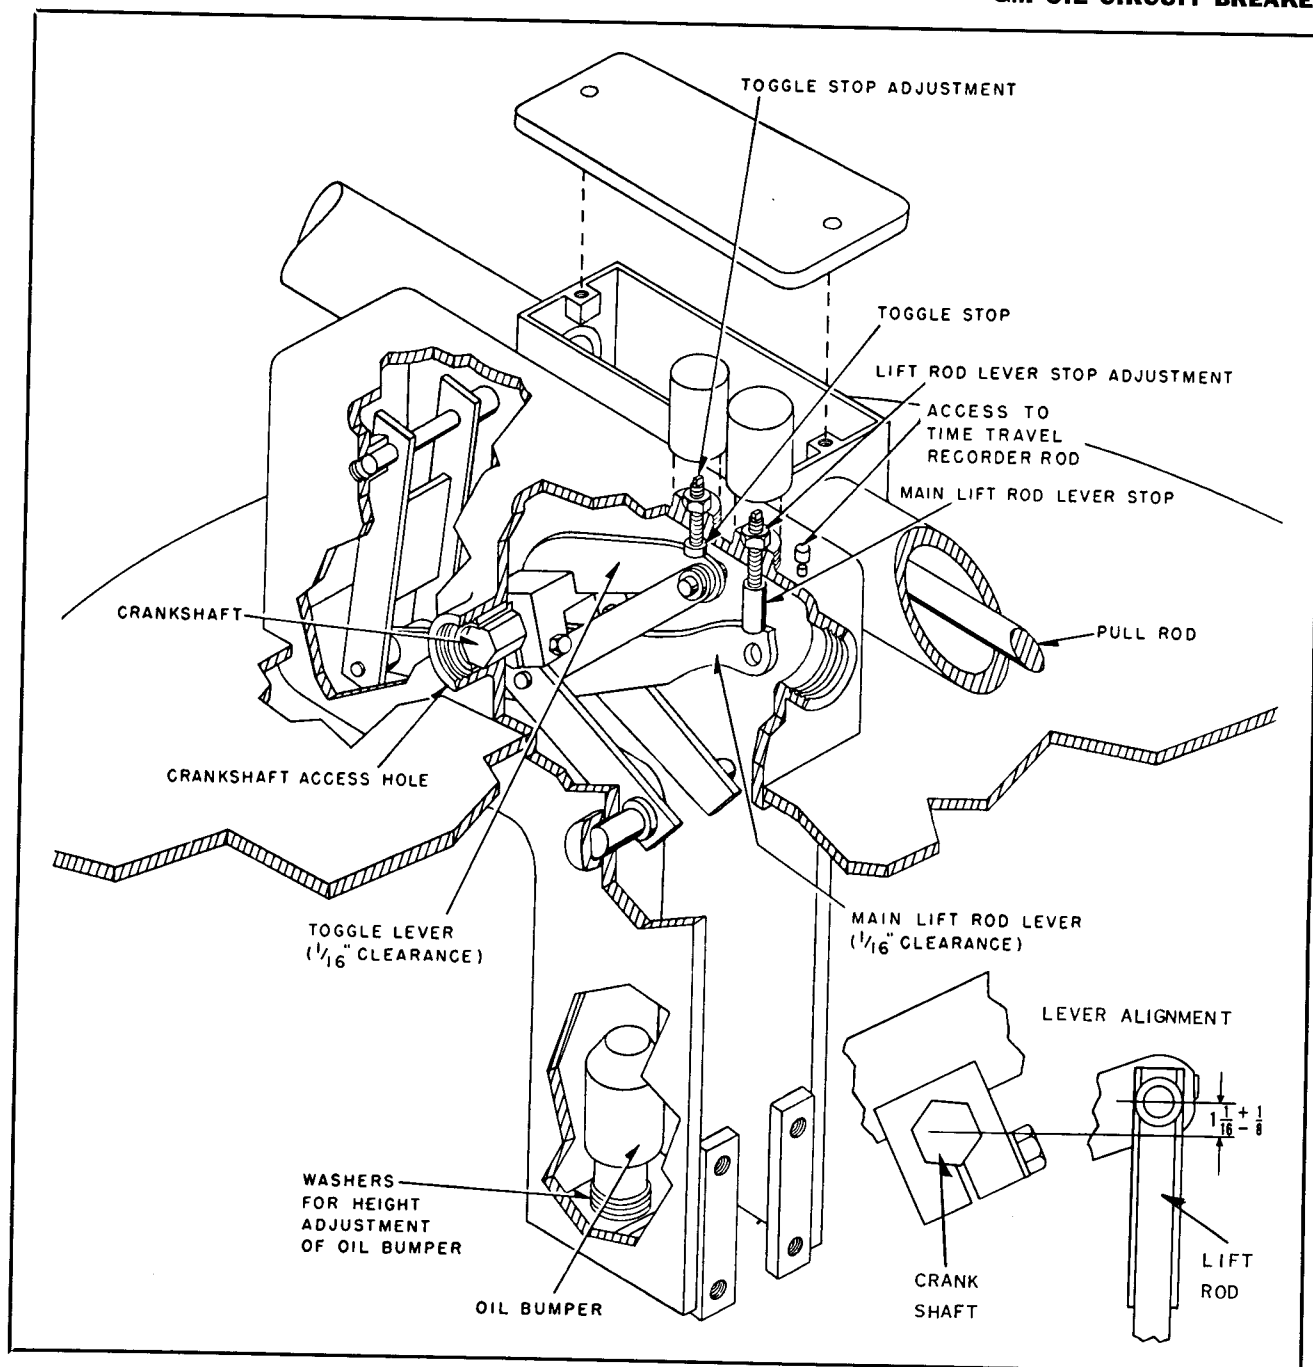

FIG. 5. Section View of Pole Unit Lever Mechanism
have been set at $\frac{1}{16}$ " by adjusting the lengths of the horizontal pull rods with breaker closed and just latched (no overtravel). The settings were made with normal accelerating spring load and contact loading, so that stop clearances should check closely. These clearances may be checked by removing pipe plugs in side of lever box. (See Fig. 5). Close manually to check stops.
If stop clearances are off various amounts adjustments should be made starting with No. 1 pole to get $\frac{1}{16}$ " clearance at all lift rod and toggle stops. Refer to Figs. 5 and 6.
6. Open the breaker slowly by hand and check to see that the oil bumpers in all poles are struck simultaneously. The height of the oil bumpers may be adjusted by adding or removing washers as indicated in Fig. 5, page 11.